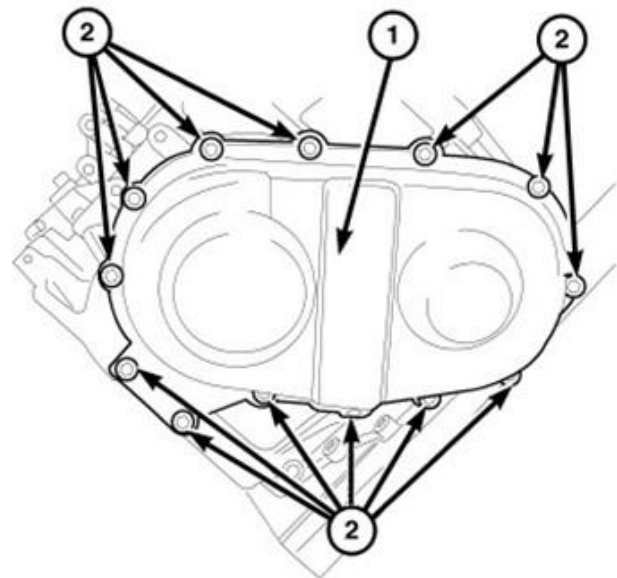

**Figure 18 – Transfer Gear Cover**
28. Remove transfer gear cover-to-case bolts (2) (Figure 18).
29. Remove transfer gear cover (1) (Figure 18).